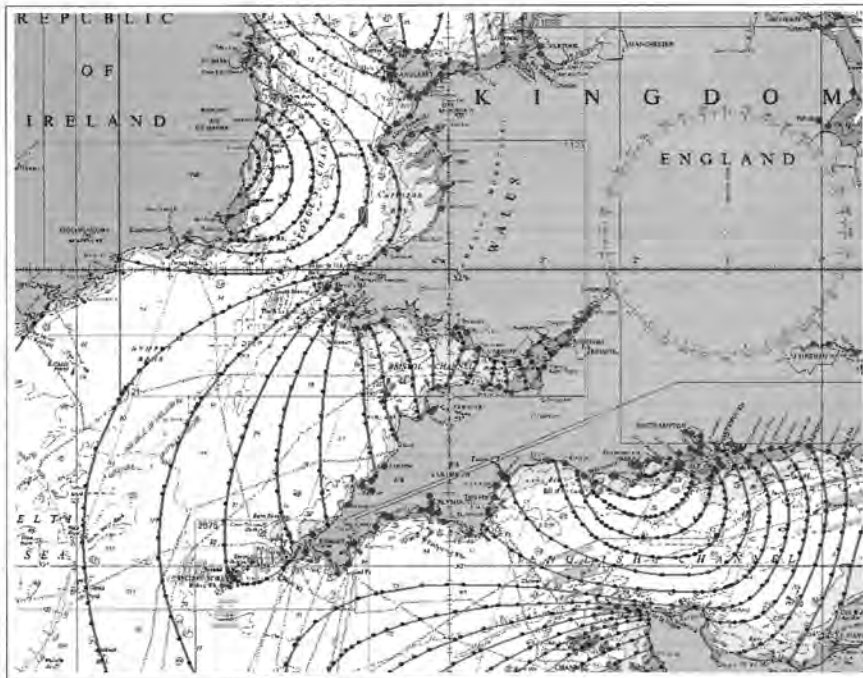

Figure 9 : Co-tidal points, lines and ports.
3. Break up vector co-tidals to obtain point positions offshore (Figure 9).